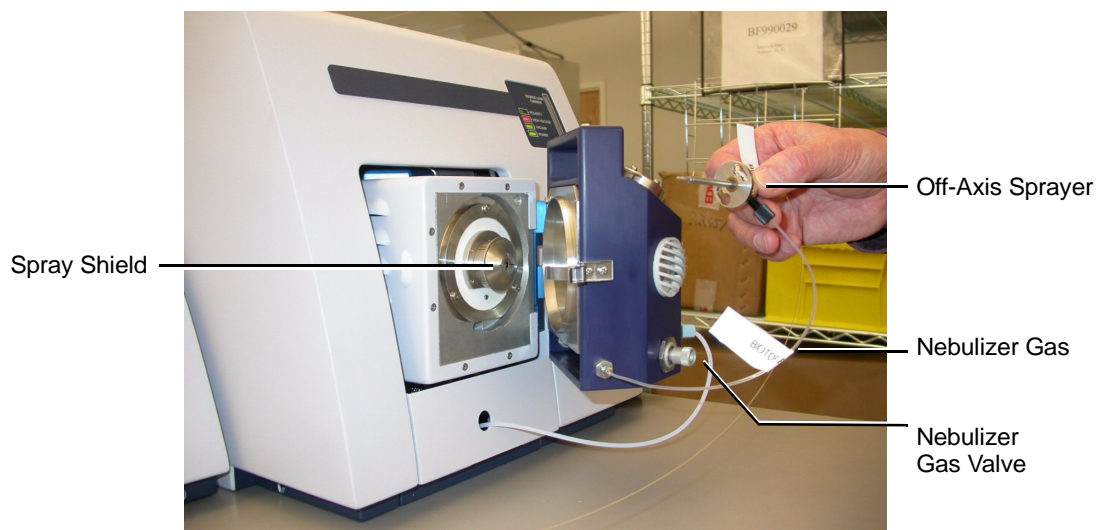

Figure 3-5 Off-axis Sprayer Assembly
The next step is to check the Sprayer Assembly on the front of the ESI Source. The assembly is attached to the ESI Source with hinges on the right and locked with a latch on the left. A sample is introduced to the spray chamber via an off-axis spray needle which is held in position by a bayonet connection. Figure 3-5 shows the sprayer assembly unlatched and open, and the off-axis sprayer removed from the assembly.
1. Release the latch on the left side of the assembly and swing the assembly out so that the spray shield (Figure 3-5) is visible.